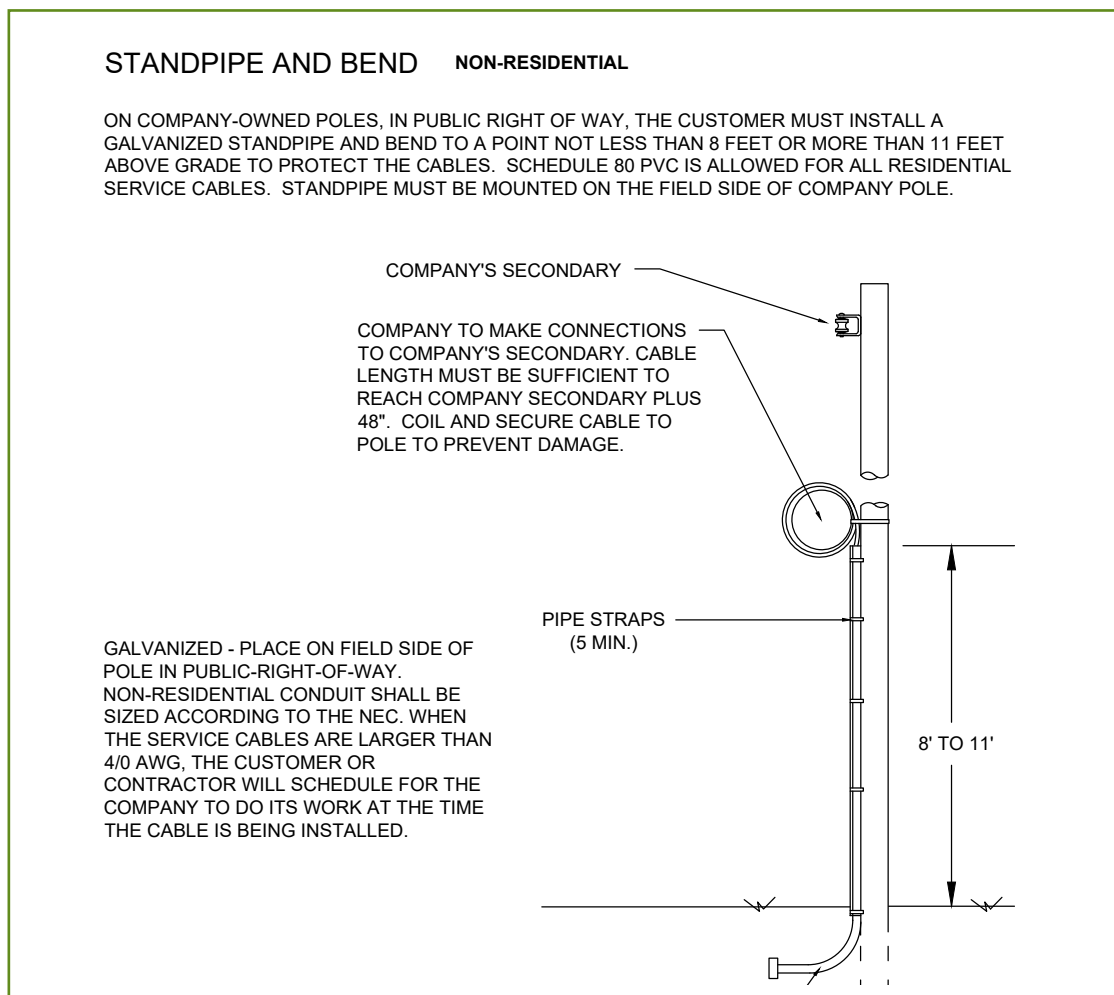

Figure 18
6. Install standpipe and bend. (Refer to Figure 18 on page 36)
7. No more than two (2) electrical conduits on any company pole.